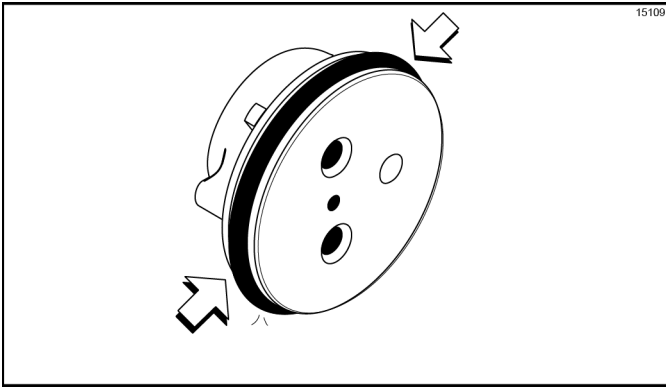

Figure 6-34
5. Assemble the valve cap. Slide the O-ring into the groove of the valve cap. Do not lubricate the O-ring. (See Figure 6-34.)